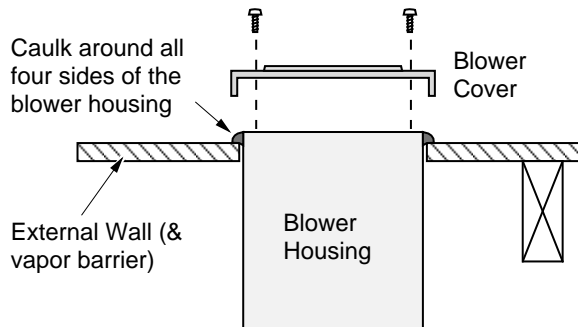

Figure 14
- The blower, if located on an external wall, must be weatherproofed (see Figure 14). Remove the blower cover and install the blower. Apply caulk around the perimeter of the blower housing where it contacts the external wall and vapor barrier (apply sparingly). Replace the blower cover.